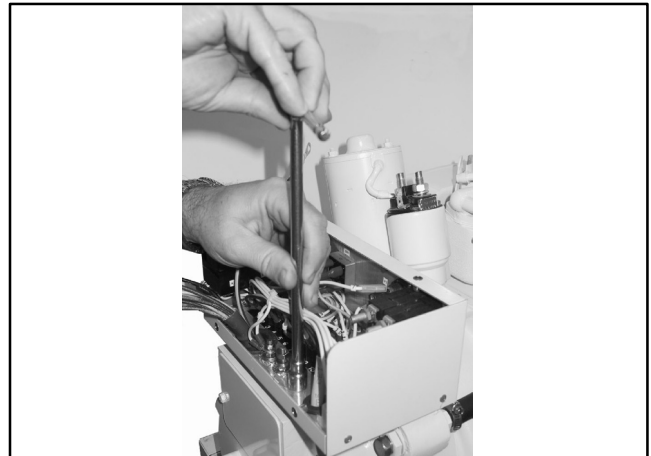

Figure 10-4 Controller Box Removal
1. Using a 10 mm socket wrench, loosen the four M6 nuts that hold the controller box on the stator housing. See Figure 10-4.